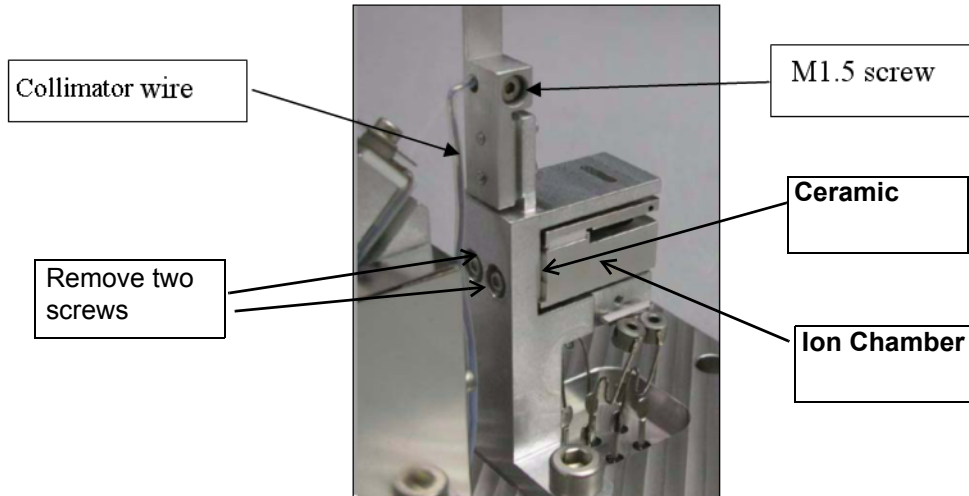

Figure 12: Partial Pressure Plate
15. Loosen the two screws on the rear and slide the ion chamber out (Figure 12: Partial Pressure Plate).
19. Connect the collimator wire to the collimator plate using an M1.5 screw (Figure 12: Partial Pressure Plate).